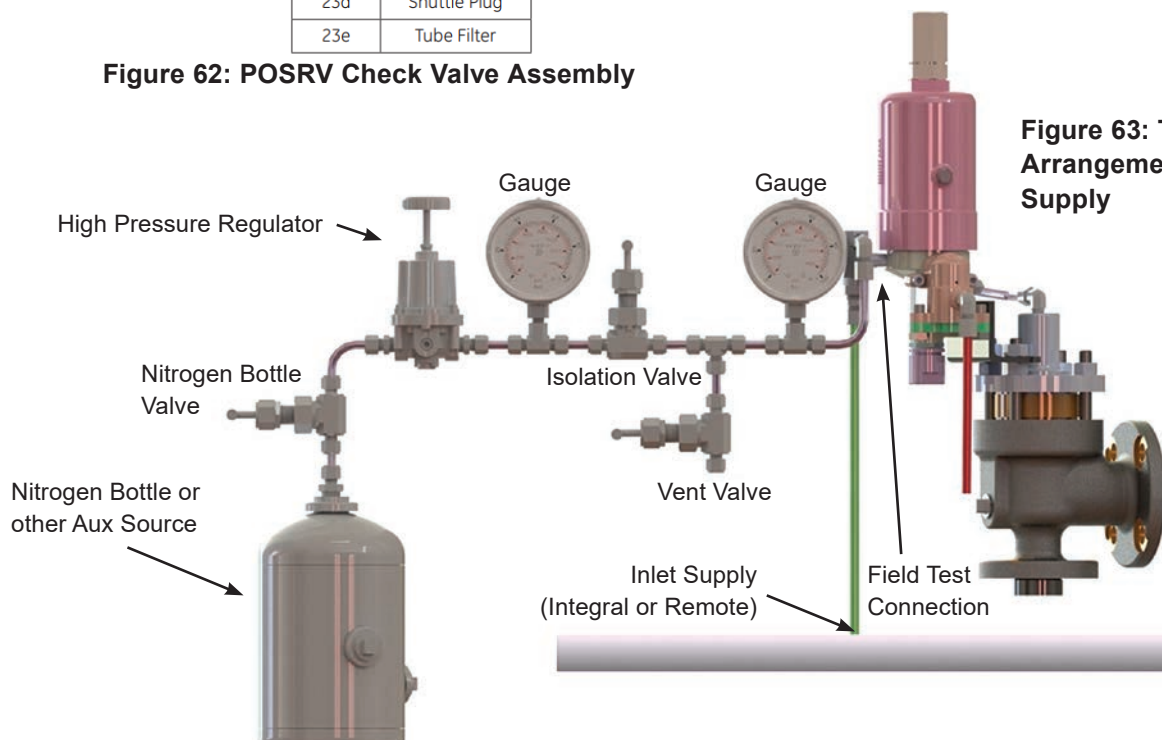

Figure 63: Typical Installation Arrangement with Auxiliary Supply
2. Connect **Field Test Arrangement** to **Field Test Connection** (Figure 63).